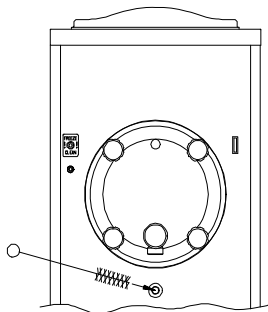

Figure 6-7 Clean drain tube
6. Brush the inside of the drain tube, as shown in figure 6-7.